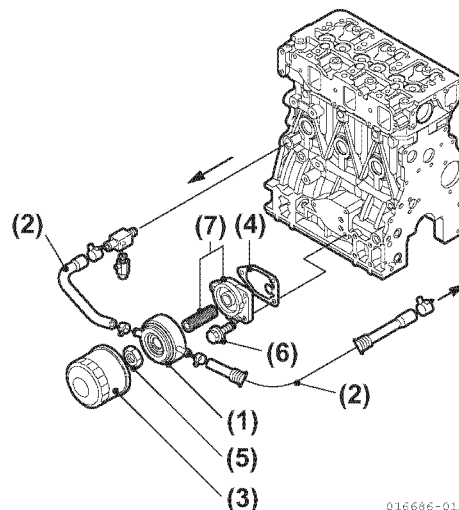

Figure 5-29
24. The lubricating oil cooler is located between the lubricating oil filter and the oil filter bracket, which is mounted on the cylinder block. The lubricating oil is cooled by freshwater (Figure 5-29):